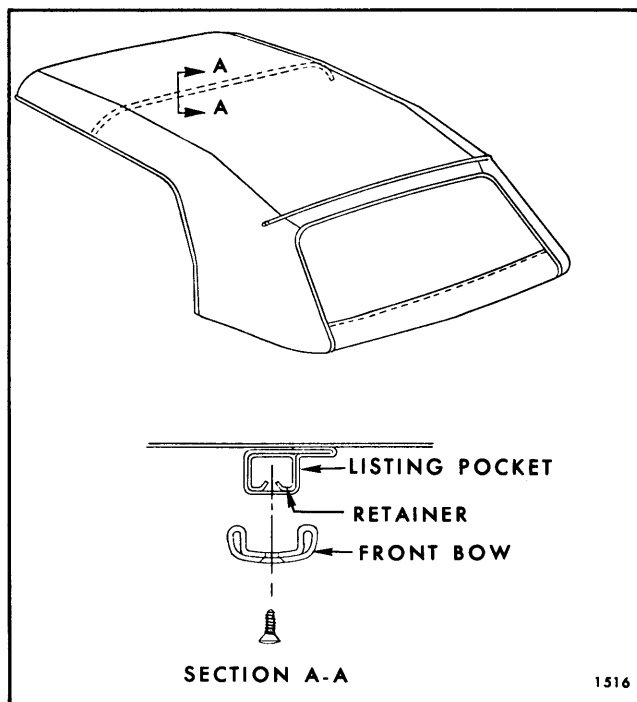

Fig. 13-3—Listing Pocket Retainer
14. At underside of front bow, remove screws securing listing pocket retainer to bow (Fig. 13-3).